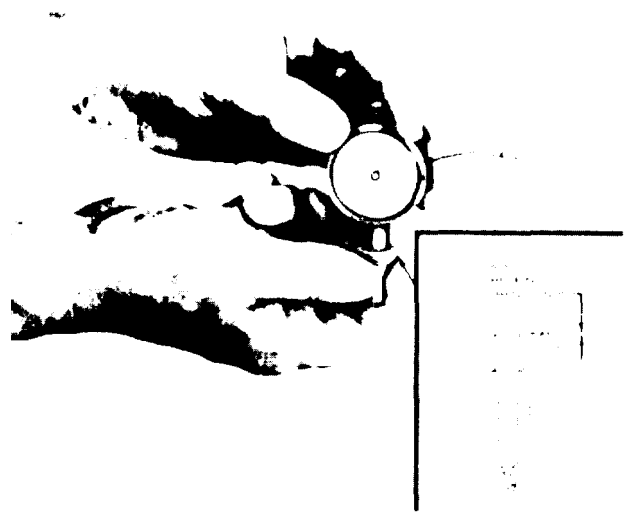

Figure 11C-17. Checking Needle Valve Lift
**NEEDLE VALVE LIFT TEST.** To measure the needle valve lift, use tool J 9462-01 as follows (see Figure 11C-17):